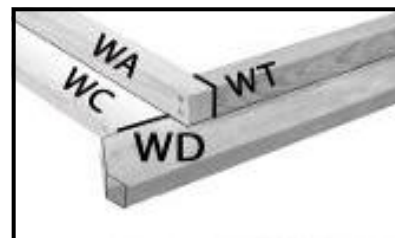

Fig A9
18. Turn frame over and repeat on the other side fig A9 & A10).